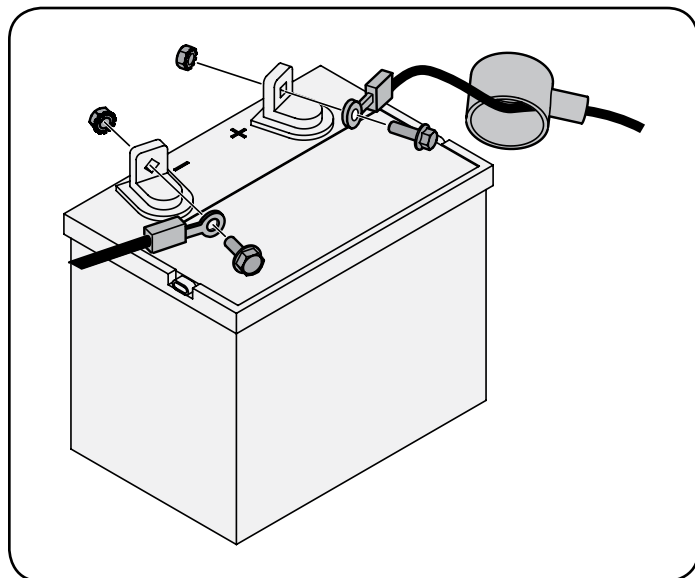

Figure 9
1. Remove the plastic cover, if present, from the positive battery terminal and attach the red cable to the positive battery terminal (+) with the bolt and hex nut. See Figure 9.
2. Remove the plastic cover, if present, from the negative battery terminal and attach the black cable to the negative battery terminal (-) with the bolt and hex nut. See Figure 9.